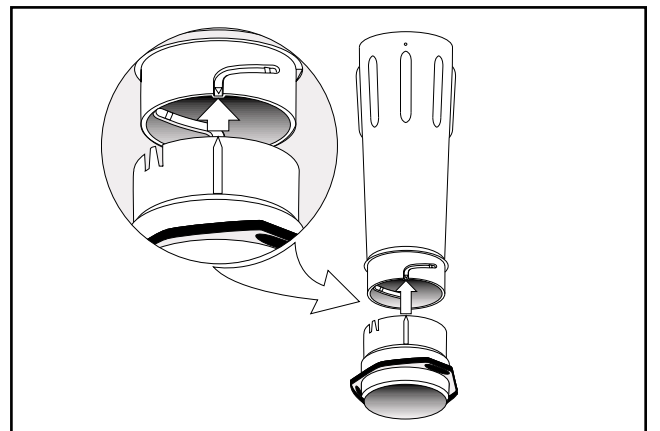

Fig. 8
4. Align the arrow on the upper tube with the arrow on the adapter. Slide the upper vac tube onto the adapter (Fig. 8).